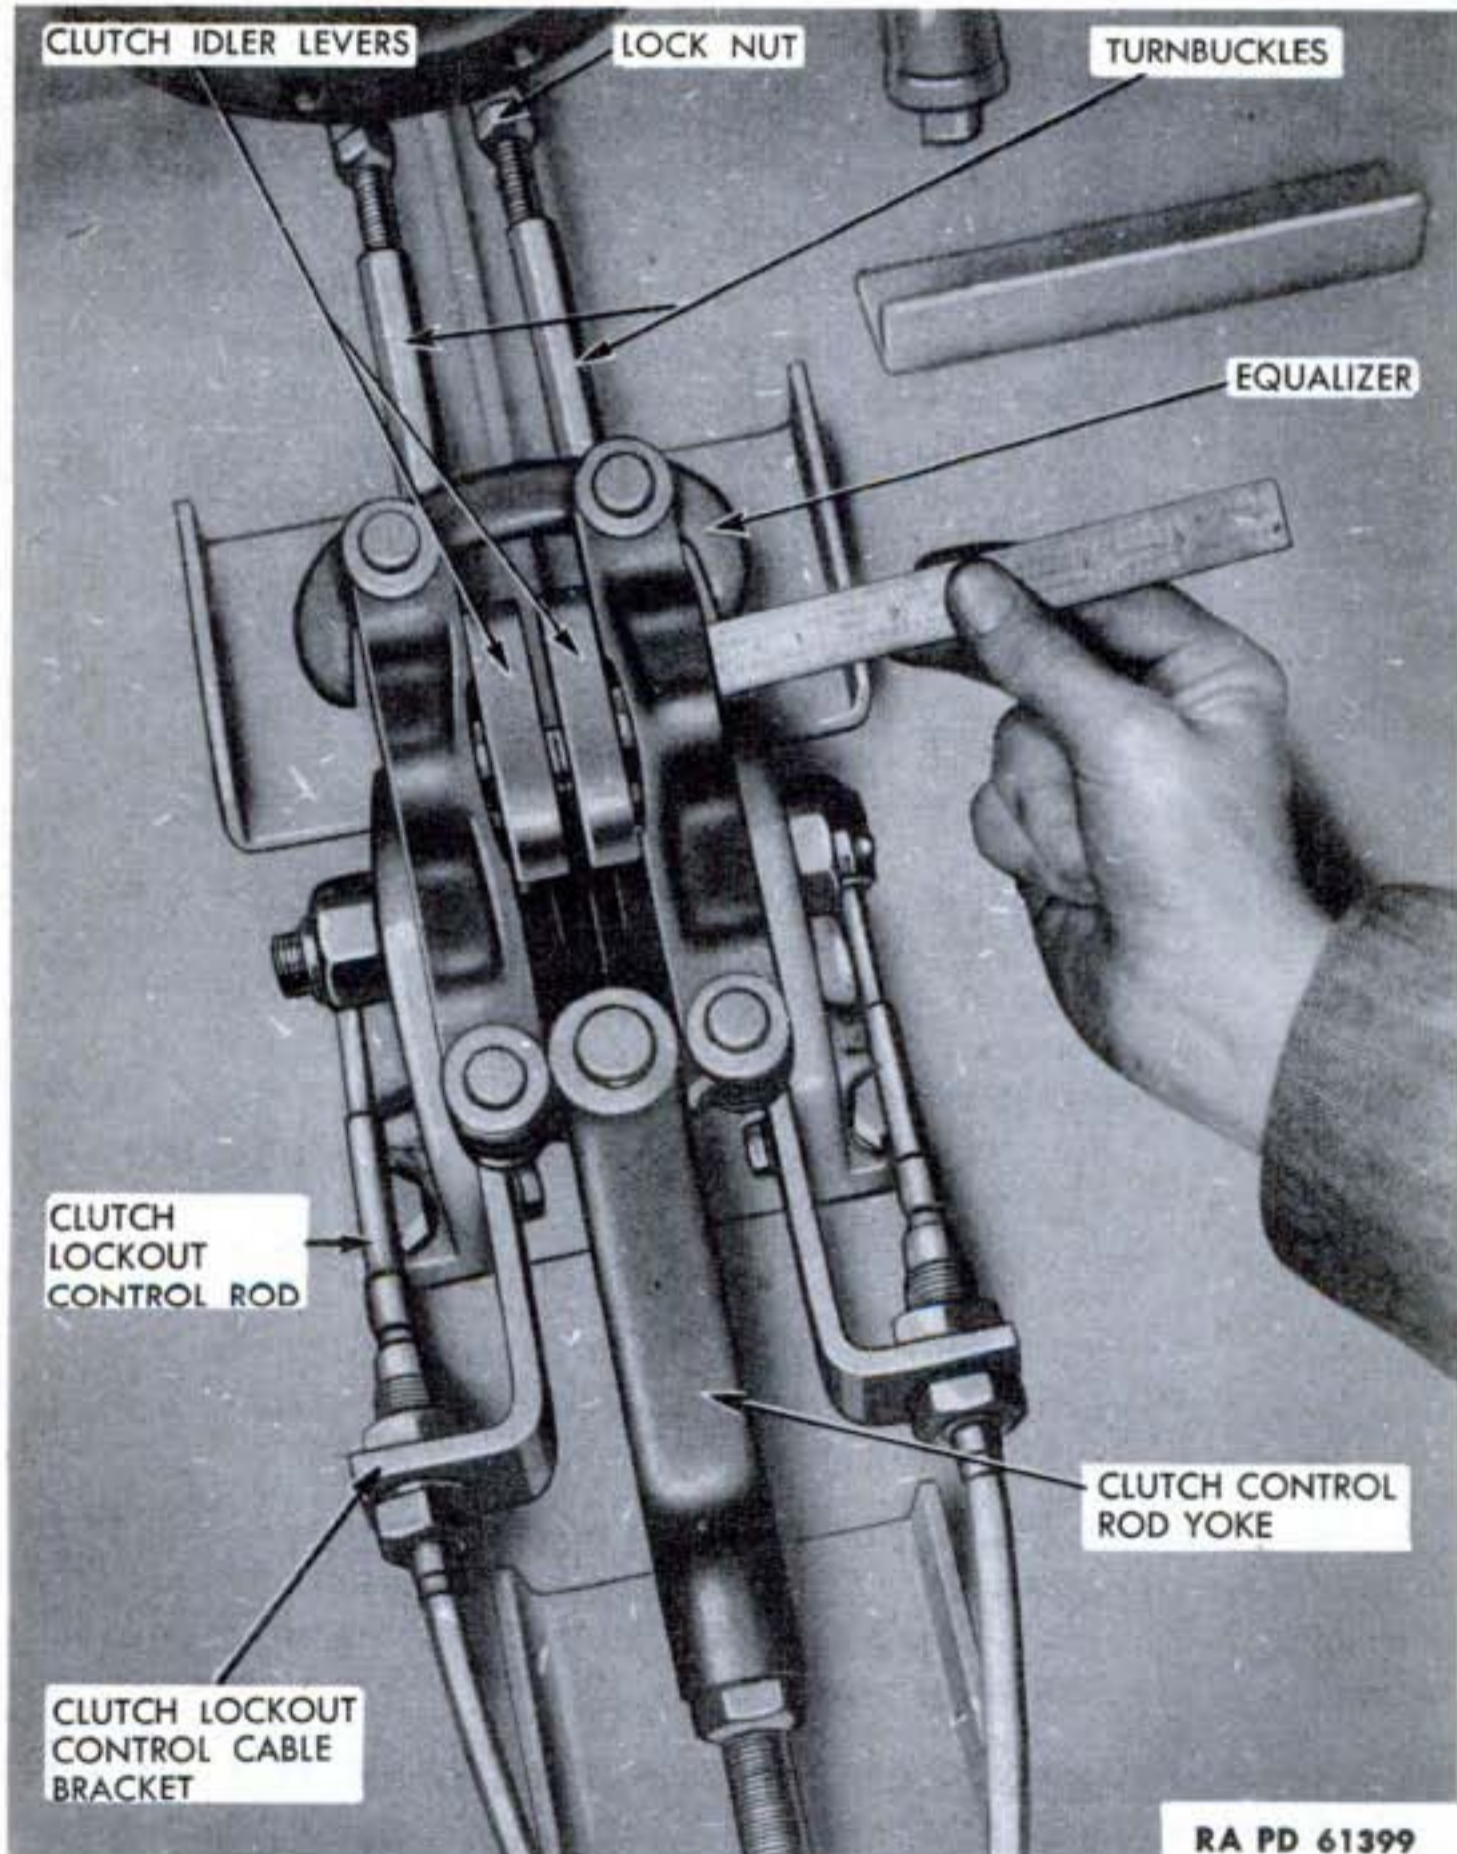

Figure 83—Checking Equalizer Adjustment
b. **Disconnection of Clutch Control Linkage.** Back off jam nuts (left-hand thread) at front ends of turnbuckles (fig. 85). Remove cotter pins and clevis pins which attach turnbuckle yokes to lower ends of clutch idler shaft levers. Remove locknut from idler lever shaft bolt and take out the bolt (fig. 85). Raise idler levers and equalizer assembly enough to permit lower ends of idler levers to swing forward, and unscrew turnbuckles from yokes on clutch release levers (fig. 83).
c. Adjustment of Rod-end Type Control Cable. For access to clutch control bracket, see preceding subparagraph **b**. Lockout cable rod-end nuts on both sides of lockout lever swivel block must be tight and lockout button pushed in all the way. Adjust cable housing end-fitting jam nuts on each side of cable housing bracket (fig. 83) to position each lockout shaft lever so that flat on shaft is in horizontal position (fig. 82). Tighten jam nuts. Limited additional adjustment, if necessary, can be made by adjusting lockout cable rod-end nuts at swivel block (fig. 85). When clutch pedal is held down, the flats on lockout shafts are visible through openings in sides of bracket casting. Bolt rear universal joint cover in position and lower hinged door.
a. Description. The clutch equalizer is a mechanical device which links the long clutch control rod to the two clutch control idler levers (fig. 83). Its purpose is to compensate for variation in the amount of wear on the friction facings in the two clutches so that both clutches will continue to engage at the same time.
c. Adjust Equalizer. Raise hinged door over rear universal joint. Remove four bolts and lock washers which attach rear universal joint cover, and lift cover out. Loosen jam nuts on both ends of both turnbuckles (fig. 85). **NOTE:** *Jam nuts on front ends of turnbuckles have left-hand threads.* Turn left turnbuckle to shorten it only enough so that left clutch lockout button can be pulled out easily without holding clutch pedal down. To obtain two inches free travel, lengthen the turnbuckle, by turning in opposite direction, exactly 18 flats (six flats on hexagon turnbuckle is one full turn, 18 flats is three full turns). Hold turnbuckle with wrench to prevent it from turning, and tighten jam nuts on both ends. Hold clutch pedal all the way down, push left clutch lockout button in and let clutch pedal up. Next, while the clutch pedal is being held down 3 to 4 inches to take slack out of clutch linkage, adjust right turnbuckle so that clearance between hooked ends of equalizer rear link and side link is the same on both sides of equalizer. Clearance can be measured by a feeler gage or a six-inch scale (fig. 83). Hold turnbuckle with wrench to
idler levers. Hold front end of equalizer down, to provide clearance to remove yoke pin which attaches control rod yoke to equalizer front link, and remove pin. Assemble equalizer temporarily on idler levers and replace clevis pin previously removed but do not insert cotter pin (fig. 84). Pull equalizer rearward until pins on equalizer side links are at rear of slots in idler levers. With equalizer held in normal position, adjust control rod yoke so that rear of pin hole in yoke is even with front of pin hole in equalizer front link. Remove equalizer assembly so that control rod yoke pin can be installed. Install yoke pin so head of pin is at top, insert and spread cotter pin. Reassemble equalizer on idler levers, install clevis pin in equalizer side and end links with head of pin at top, insert and spread cotter pin. Tighten control rod yoke jam nut (fig. 83). Install propeller shaft rear cover.
in the regular manner, and watch both tachometers while the clutches are engaging. If clutch linkage is adjusted correctly, both tachometer hands will drop together. If one tachometer hand consistently drops more quickly than the other, inspect the entire clutch linkage, including the equalizer, to make sure it moves freely and that there is no binding in any of the clevises. If the linkage is free, recheck the equalizer adjustment (fig. 83). After rechecking the adjustment, if appreciable variation in the engaging action of the clutches still exists, refer to Clutch Trouble Shooting (par. 47). When clutch linkage has been correctly adjusted, install the rear universal joint cover and lower the hinged door.